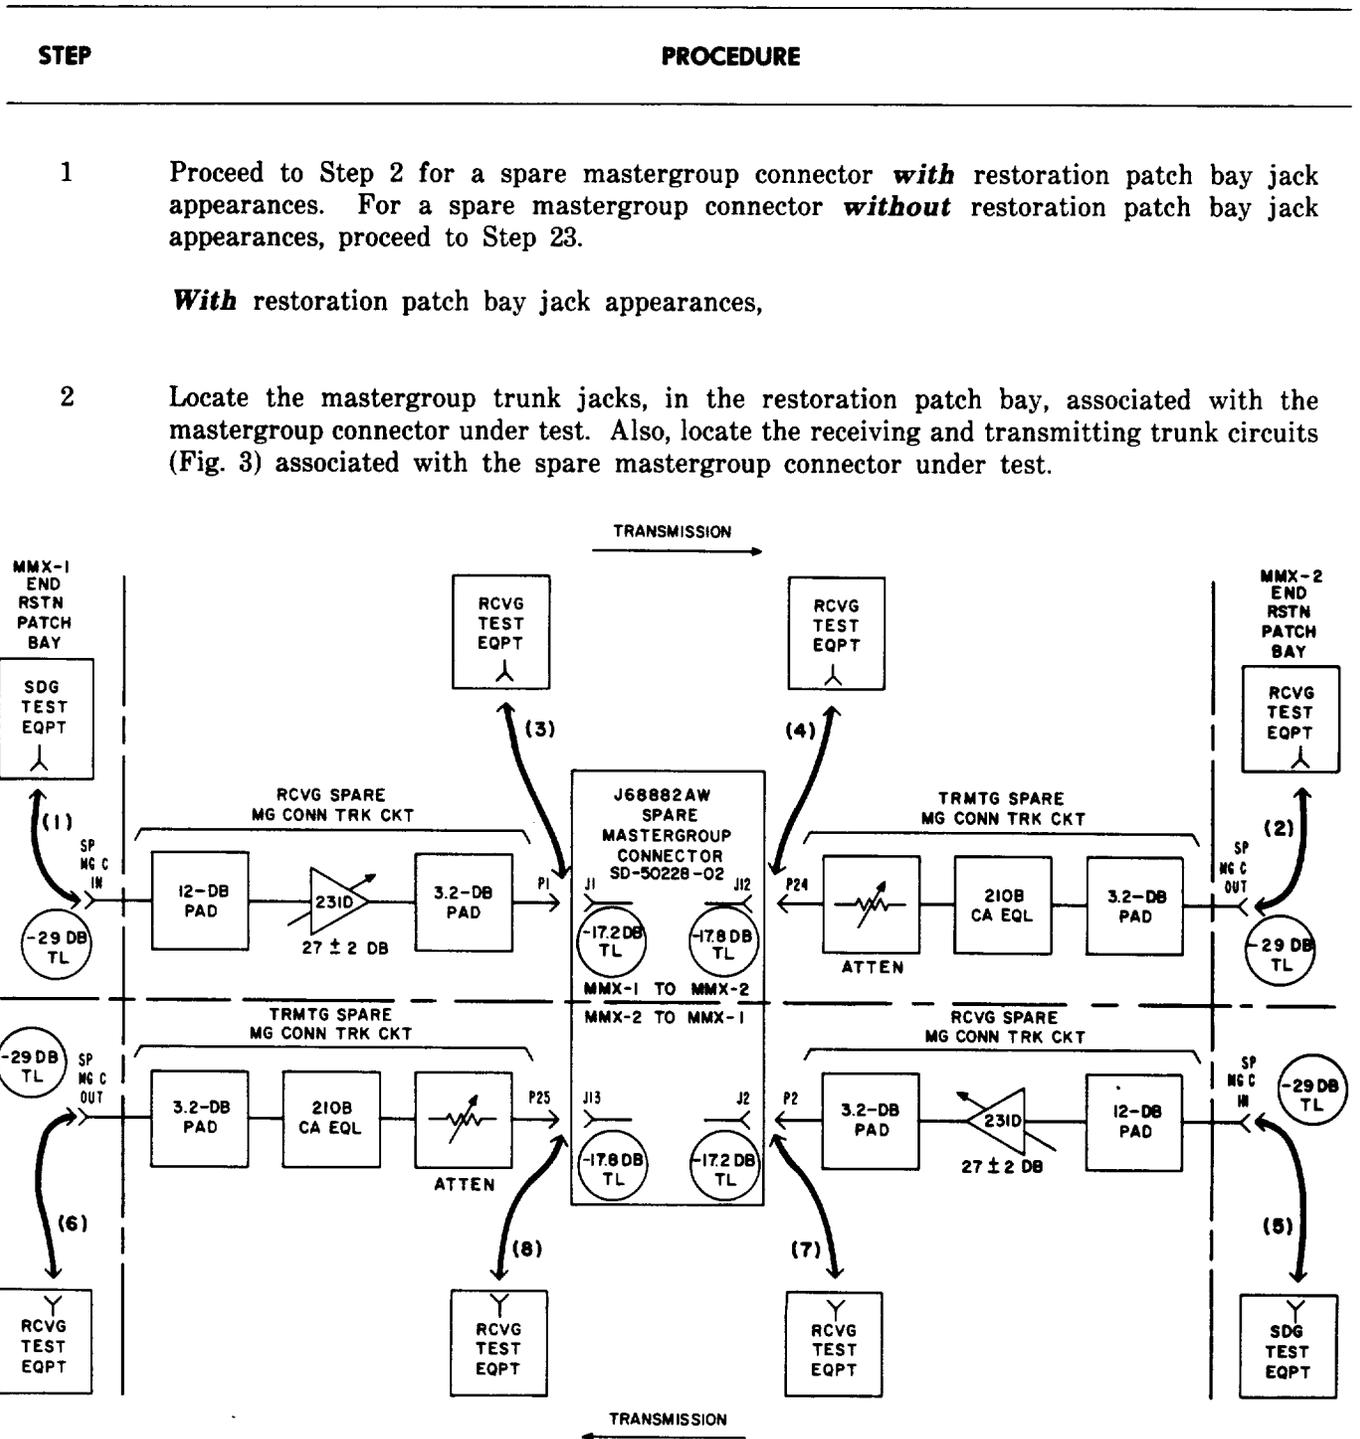

Fig. 3—Spare Mastergroup Connector Test Connections
A **spare** mastergroup connector can be patched in service in place of a corresponding regular mastergroup connector. A spare mastergroup connector may be used for restoration service when connected to restoration patch bays, as shown in Fig. 3. Spare mastergroup connector J68882AW can serve both directions of transmission provided by a regular mastergroup connector J68882AW. The MMX-2 to MMX-1 direction of transmission through a spare mastergroup connector J68882AW can serve for either direction of transmission through a regular mastergroup connector J68882AP (MMX-2 to MMX-2).
3	Apply a 1.8-MHz test signal at -29 dBm to the SP MG C IN jack [patch 1 (5), Fig. 3].
4	Measure the 1.8-MHz power at the SP MG C OUT jack [patch 2 (6), Fig. 3].
6	Measure the 1.8-MHz power at plug P1 (P2) [patch 3 (7), Fig. 3].
10	Measure the 1.8-MHz power at jack J12 (J13) on the rear of the mastergroup connector [patch 4 (8), Fig. 3].
16	Measure the 1.8-MHz power at the SP MG C OUT jack [patch 2 (6), (Fig. 3)].  Requirement: -29.0 dBm $\pm$ 0.1 dB
19	At MMX receiving bay, Apply a 0.6-MHz test signal at -29 dBm to the SP MG C IN jack [patch 1 (5), (Fig. 3)].  At MMX transmitting bay,
20	Measure and record the 0.6-MHz power at the SP MG C OUT jack [patch 2 (6), Fig. 3].
33	Apply a 3.0-MHz test signal at -29 dBm to the SP MG C IN jack [patch 1 (5), Fig. 3].
39	Apply a 3.0-MHz test signal at -29 dBm to the SP MG C IN jack [patch 1 ( 5 ), Fig. 3].
40	Measure and record the 3.0-MHz power at the SP MG C OUT jack [patch 2 ( 6 ), Fig. 3].